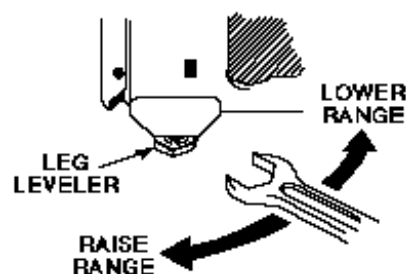

Fig. 16
- d. Use the wrench to adjust the leg levelers. Level range front to back and side to side. See Fig. 16.